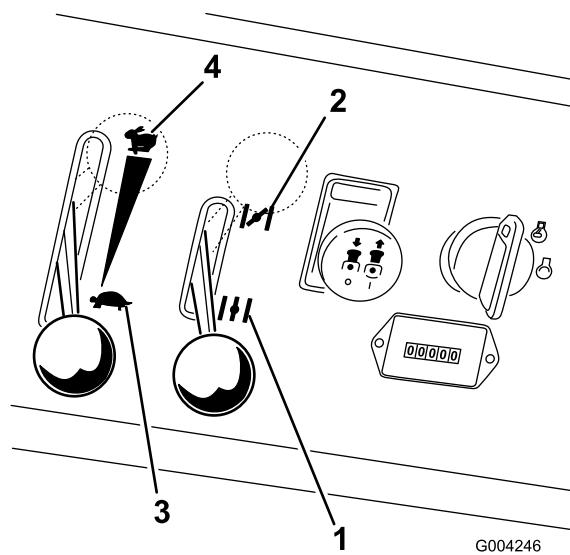

Figure 11
4. Move the choke control to the **on** position before starting a cold engine (Figure 11).
- Move the throttle control to the **fast** position before starting a cold engine (Figure 11).
- After the engine starts, move the choke to off (Figure 11). If the engine stalls or hesitates, move the choke back to on for a few seconds, then move the throttle lever to desired setting. Repeat this as required.
- Move the throttle lever midway between the slow and fast positions (Figure 11).